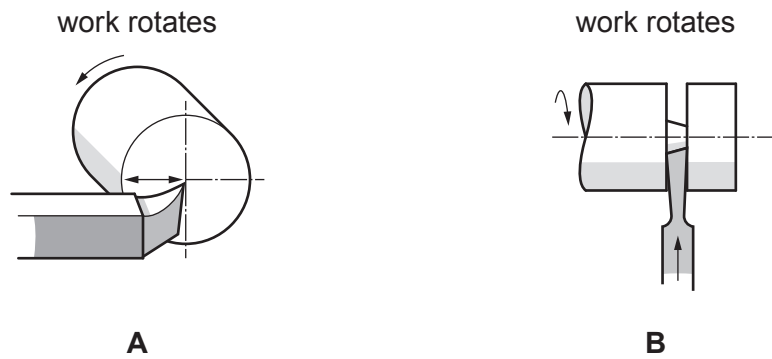

Fig. 11.5
- (iii) The weights could also be cut to length on a centre lathe. Fig. 11.5 shows two centre lathe operations, **A** and **B**, that could be used to produce the weights.